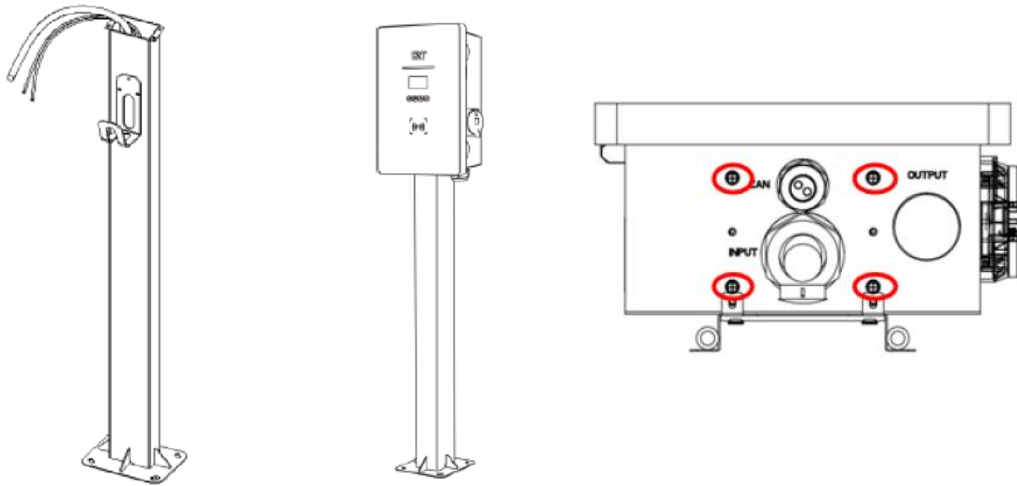

Figure 17 - Positioning of charger on support post
- 4) Secure the station on the support, as shown in Figure 17